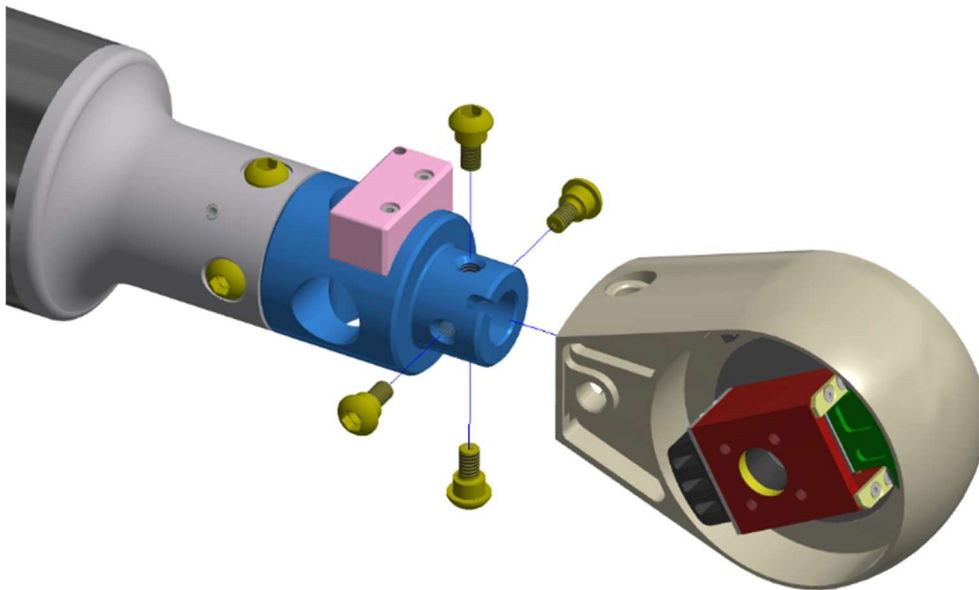

Figure 9-19. Remove four Modified BHSS M6 Thread from the Knee Assembly (474-5400)
9.2.12 Remove four Modified BHSS M6 Thread from the Knee Assembly (474-5400) (Figure 9-19).